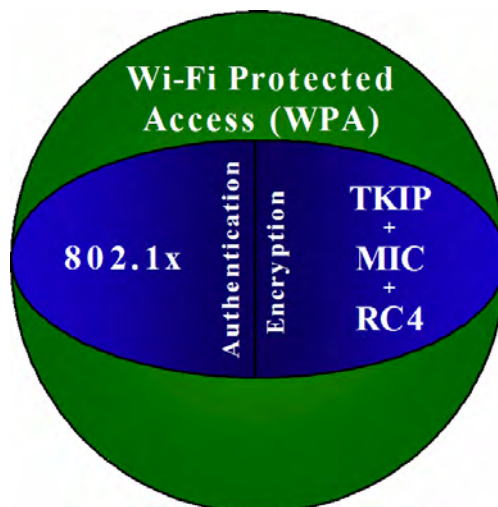

FIG. 79 WPA Overview
- To resolve problems with WEP, the Wi-Fi Alliance released WPA (FIG. 79) which integrated **802.1x**, **TKIP** and **MIC**. Within the WPA specifications the RC4 cipher engine was maintained from WEP. RC4 is widely used in SSL (Secure Socket Layer) to protect internet traffic.